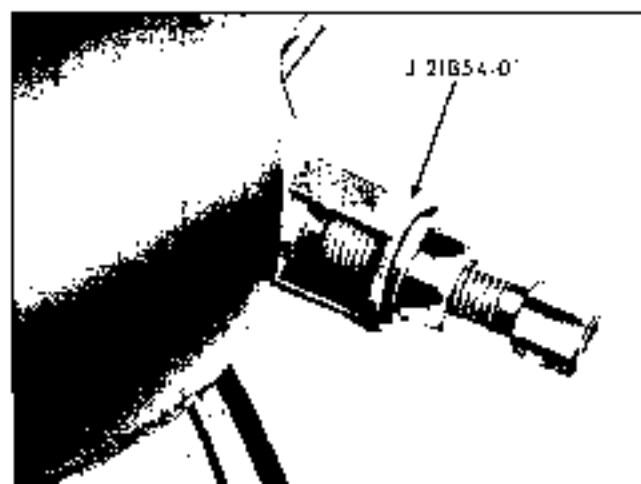

Fig. 9-24 Removing Pivot Pin
11. Remove two pivot pins using tool J 21854-01 (Fig. 9-24).